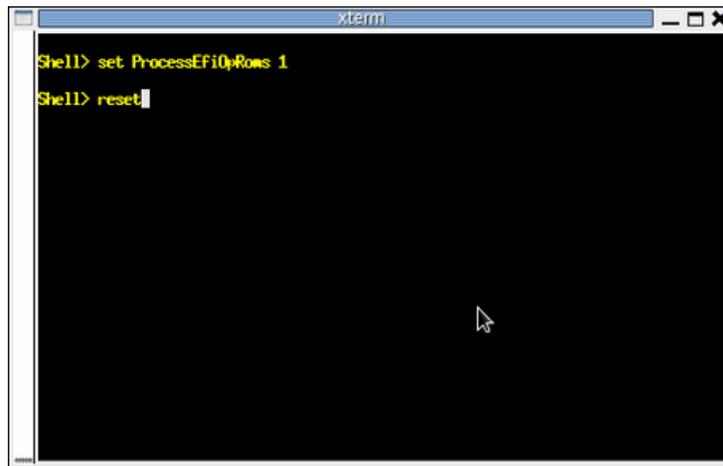

Figure 3-7 EFI Shell Prompt Showing `set` Command
1. In order to boot from a Qlogic Fibre Channel disk on an SGI Altix UV 100 or SGI Altix UV 1000 system, the `ProcessEfiOpRoms` EFI environment variable needs to be set. Use the EFI `set` command, as shown in Figure 3-7 on page 46.